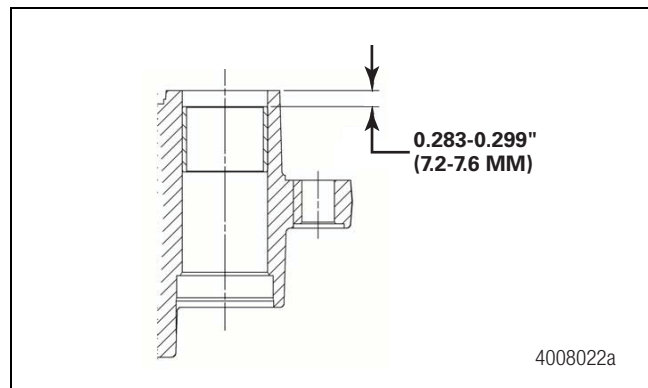

Figure 6.38
- Using the applicable parts from Meritor tool MST1000, pull the bushing into the slide pin bore to a depth of 0.283- 0.299-inch (7.2-7.6 mm) measured from the end face of the housing (on the boot retainer side of the bore). Figure 6.38.